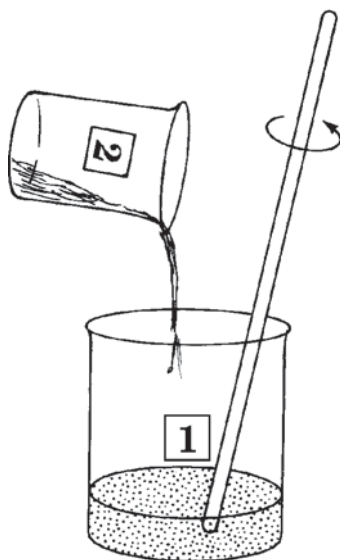

Figure 35.2
3. Into the 100-mL beaker containing polar ingredients, slowly pour the contents of the 50-mL beaker that holds the molten nonpolar ingredients (Figure 35.2). Stir the mixture for 5 min. until you have a smooth uniform paste.